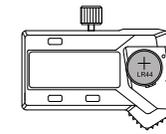

fig.2
- Put LR44 battery into battery house, the positive side of battery (+) should face out (fig.2)